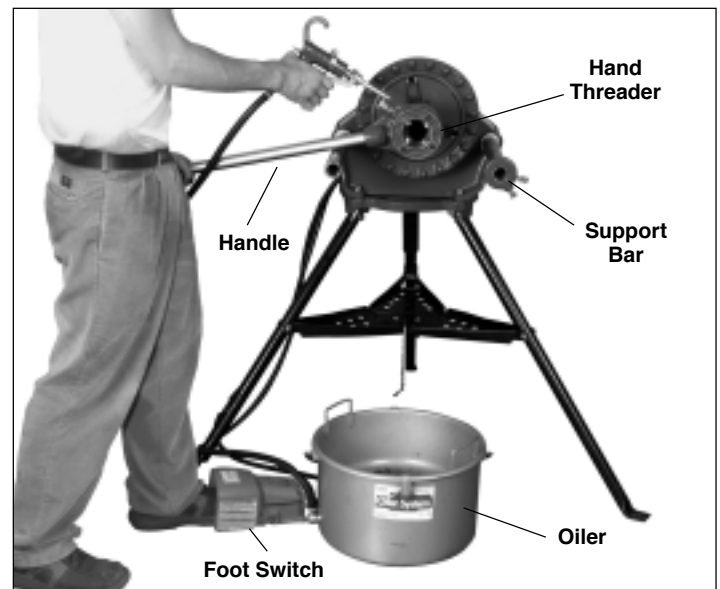

Figure 6
2. Place 06150 Oiler (Figure 6) under threader and apply REED Thread Cutting Oil on pipe end.
**NOTE: THREADER IS AUTOMATIC ONCE DIES ARE ENGAGED. APPLY PLENTY OF OIL (FIGURE 6) UNTIL THREADS ARE COMPLETED.**
OPERATING FOOT SWITCH. (FIGURE 6)**